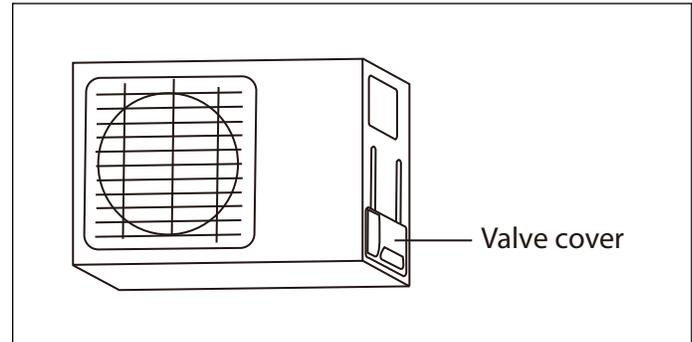

Figure 35
1. Unscrew and remove the cover on the side of the outdoor unit. (See Fig. 35)